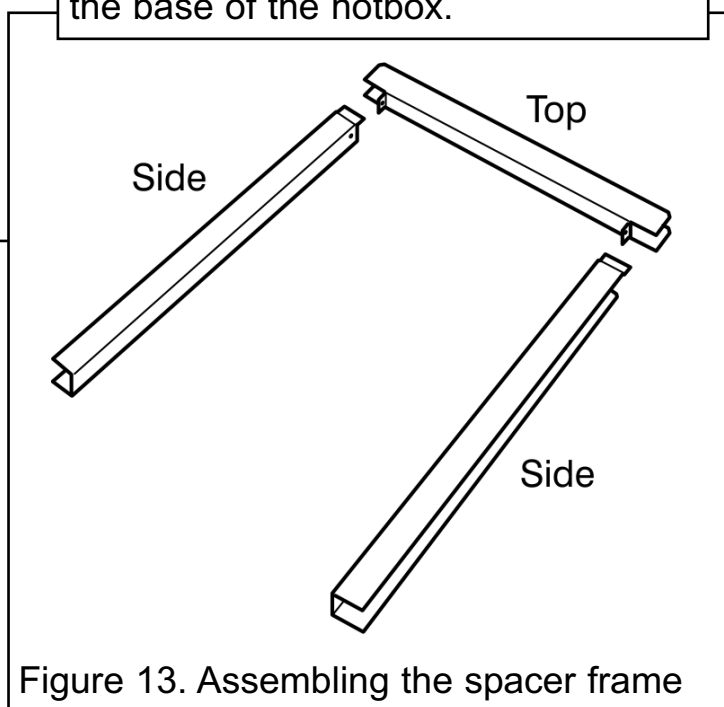

Figure 13. Assembling the spacer frame
8. Supplied with the fire is a spacer frame. This is made up of three separate pieces, a top and two sides. The three pieces are identified in figure 13.